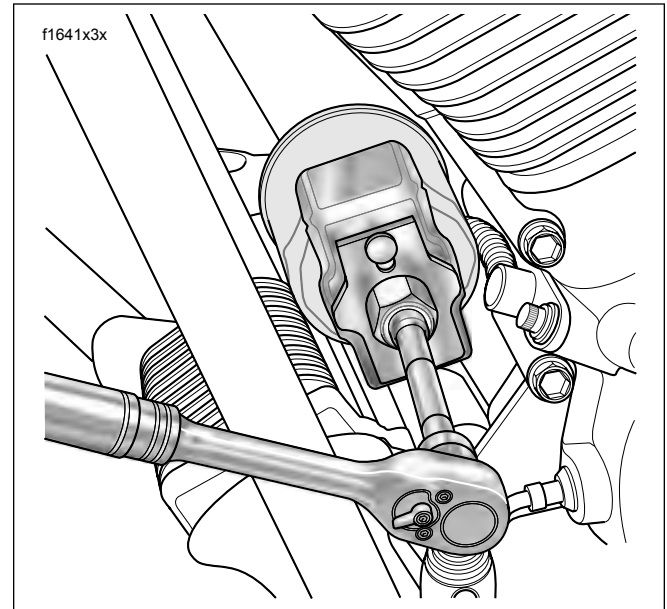

Figure 1-1. Remove Engine Oil Filter
- Place the jaws of the wrench over the oil filter with the tool oriented vertically. See Figure 1-1.